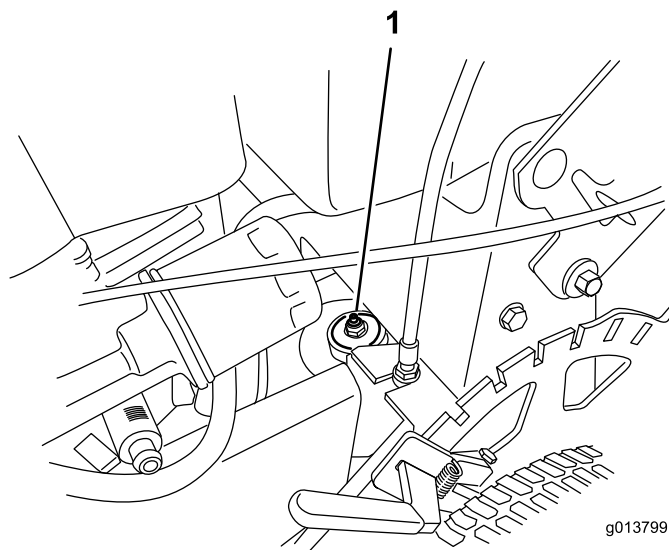

Figure 20
1. Install a grease gun onto the fitting from under the fuel tank (Figure 20).